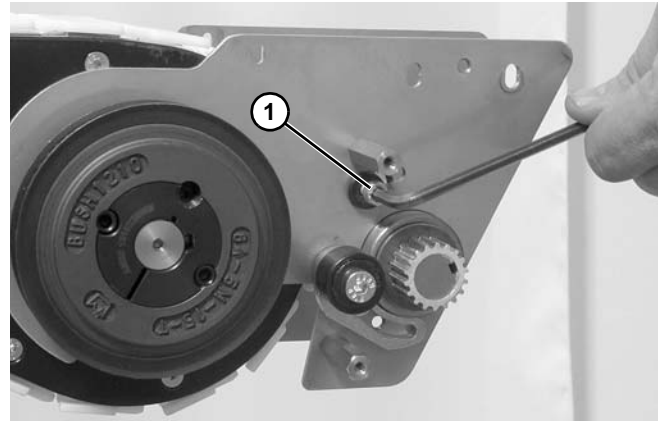

Figure 133
12. Remove socket head screw (**Figure 133, item 1**) on both sides of the conveyor and remove idler assembly.